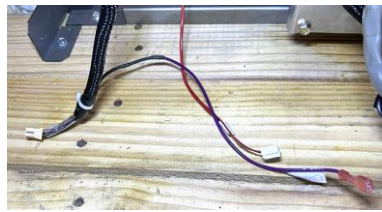

Figure 10
13. From the rear of the SCB box, gently pull the harnesses disconnected in steps 10, 11 & 12 through the rear grommet in the rear of the SCB box (see Figure 10). Let them rest behind the SCB box.